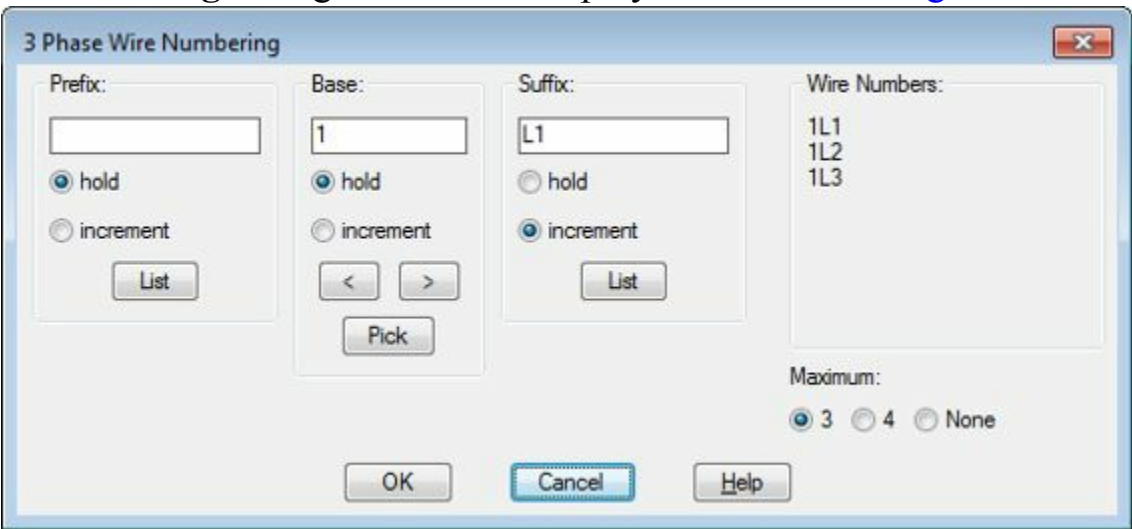

Figure-28. 3 Phase Wire Numbering dialog box
- Click on the **3 Phase** tool from the **Wire Numbers** drop-down in the **Ribbon**. The **3 Phase Wire Numbering** dialog box will be displayed as shown in Figure-28.